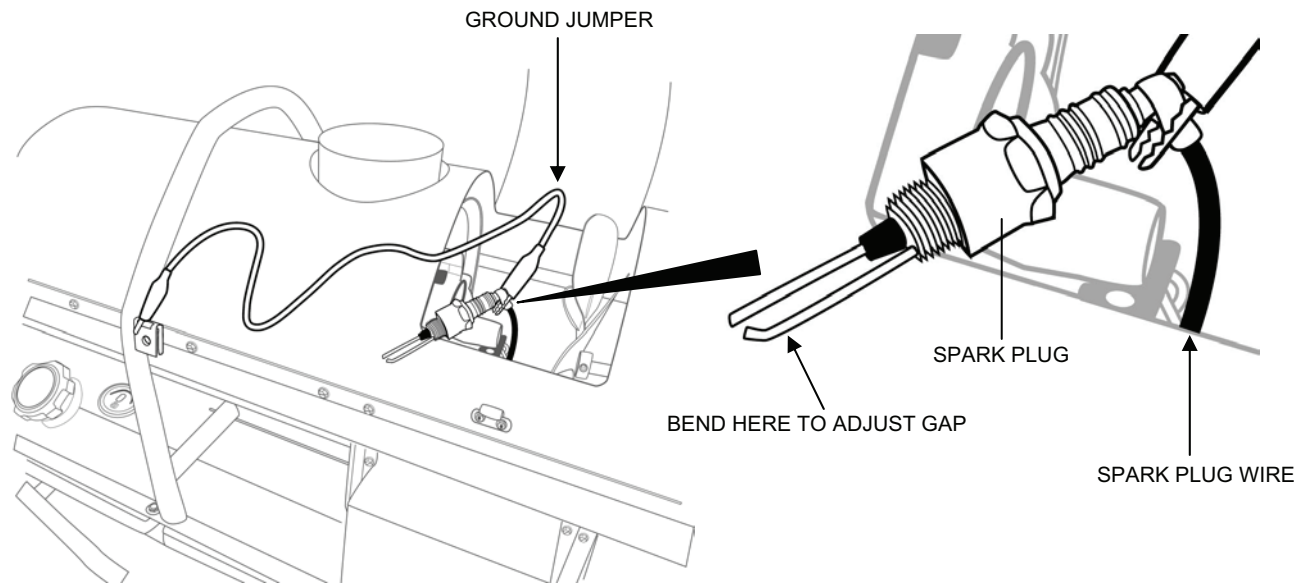

Figure 14. Diesel Heater Spark Plug / Transformer Test Set-Up.
2. Test the diesel heater spark plug and transformer as follows (see Figure 14):